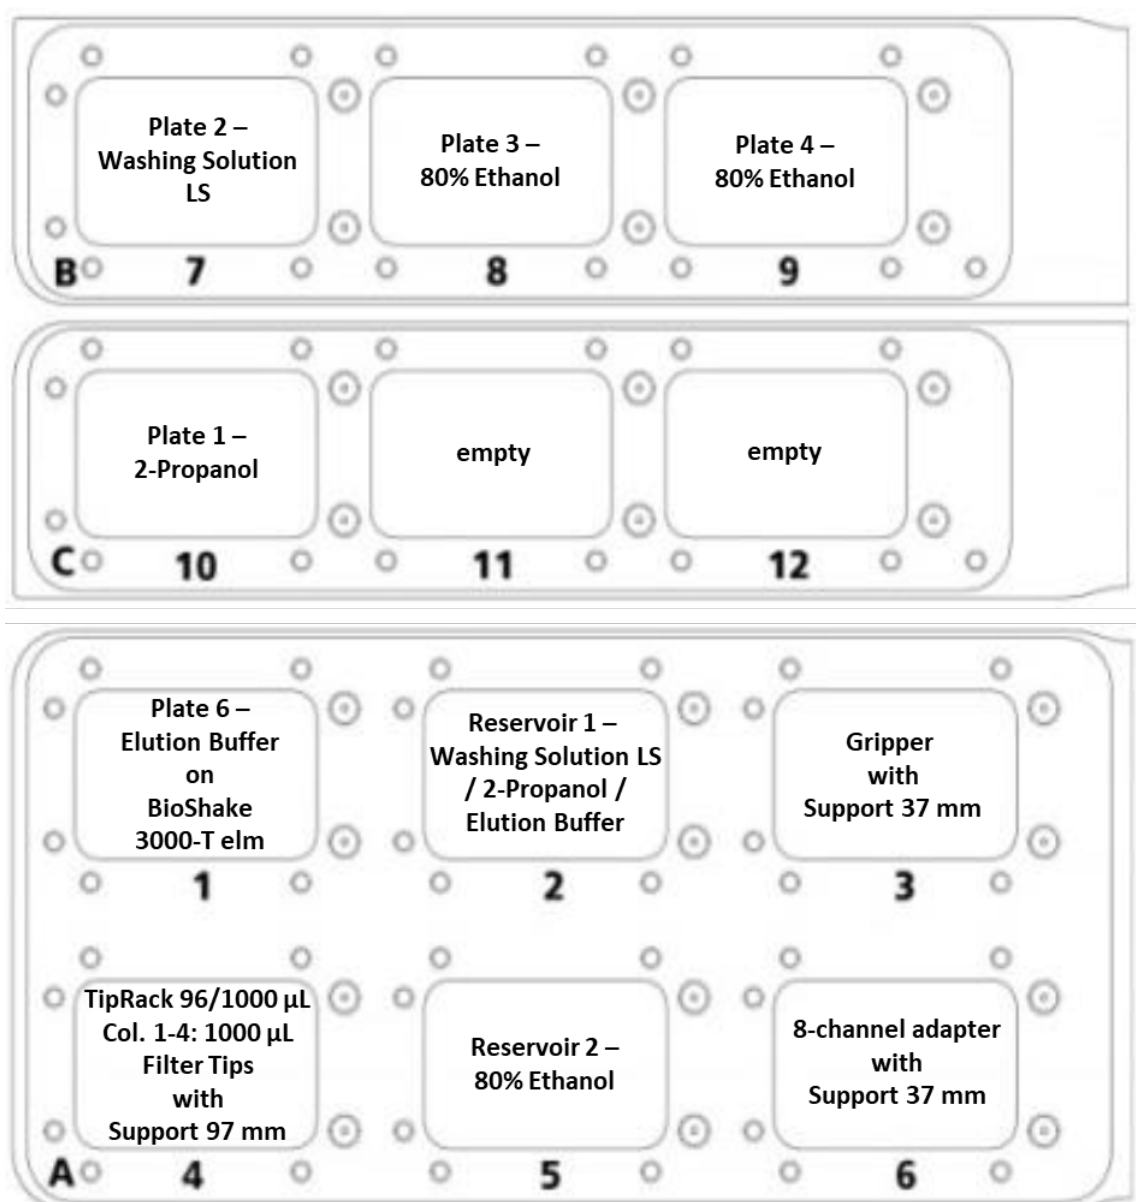

Figure 3: Deck Layout for the prefilling protocol.
- Solution LS/ 2-Propanol/ Elution Buffer". Place the filled reservoir into the CyBio FeliX on position 2 (→ see **Figure 3**).
- Transfer 130 mL **80% Ethanol** into the 1 column reservoir labeled "Reservoir 2 – 80 % Ethanol". Place the filled reservoir into the CyBio FeliX on position 5 (→ see **Figure 3**).
- Place the CyBio Tip Rack 96/1000 µL into the CyBio FeliX on position 4 (→ see **Figure 3**).
- Place the 8-channel adapter (Head R 96) with the support 37 mm into the CyBio FeliX on position 6 (→ see **Figure 3**).
- Place the empty, labeled plates on the CyBio FeliX deck according to deck layout 1 (→ see **Figure 3**).